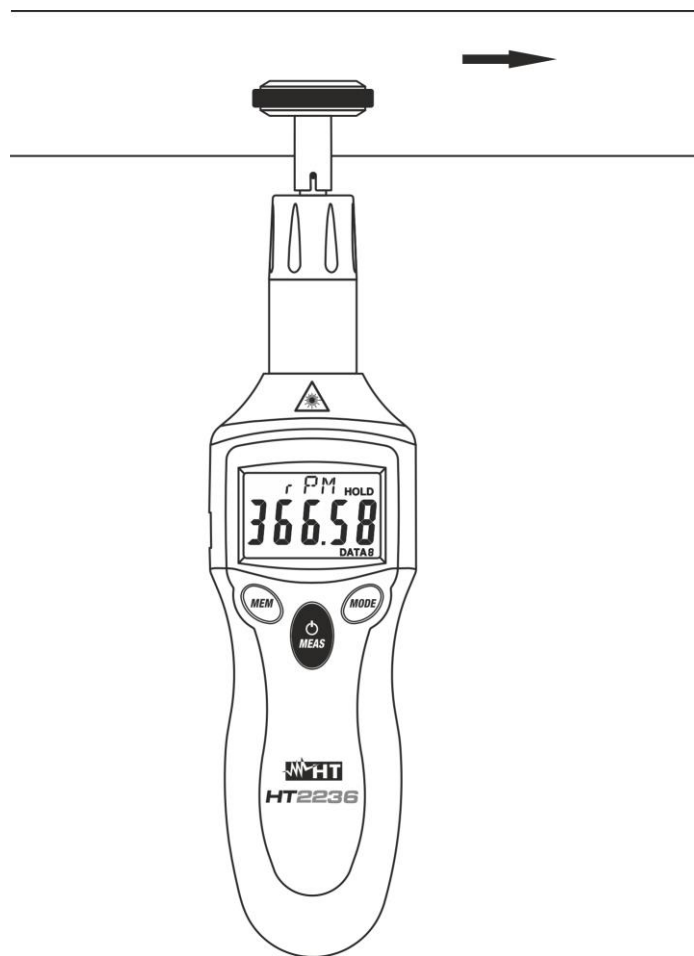

Fig. 4: Speed measurement on surfaces
6. Press and hold the /MEAS key, placing the rubber wheel on the surface of the object to be measured (see Fig. 4) and perform the measurement.